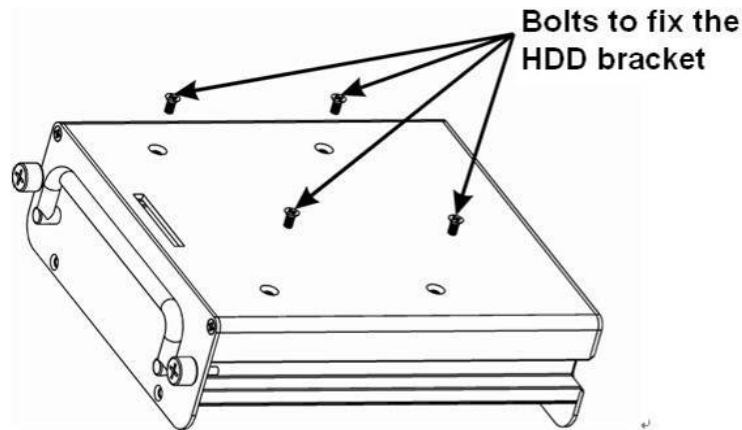

Figure 3-5
5) After install the HDD, put the HDD bracket back to the box. See Figure 3-5. Secure bolts of the HDD bracket and connect the cable to the corresponding ports.